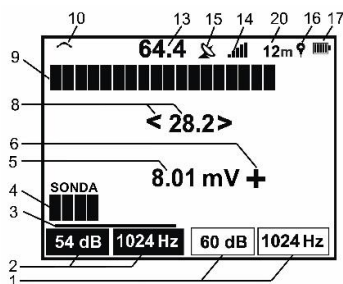

Fig. 21. Display in „Track-SENSOR" mode
- **TRACE-SENSOR** – to locate the utility insulation damage and detect the depth of damaged area; to detect the short-circuited areas or wire break and select the conductors in the multi-core cables. The display of this mode is shown in **Fig. 21**.